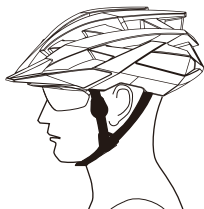

Fig. 1. Correct
Put the helmet on your head as shown in Fig. 1. Slide the tri-glide splitters just below your earlobes. Next, adjust the location of the buckle to provide even tension between your neck and head. Finally, adjust the knob on the regulator for proper integration.
- Fig. 1 shows the correct way to wear the helmet. Always wear the helmet with the strap and buckle fastened, and with the strap pulled tight and positioned back against the throat. The leading edge of the helmet should land just above the eyebrows.